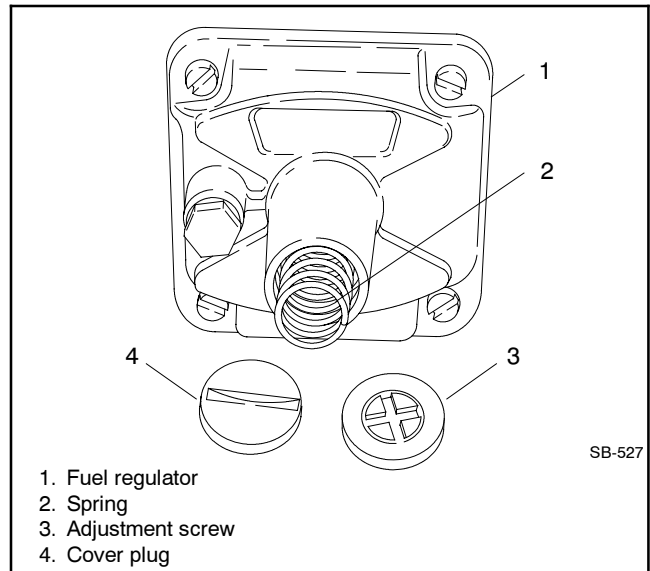

Figure 9-8 Fuel Regulator, Typical
- a. Remove the fuel regulator cover plug. See Figure 9-8.
- b. Remove the fuel regulator cover plug. See Figure 9-8.